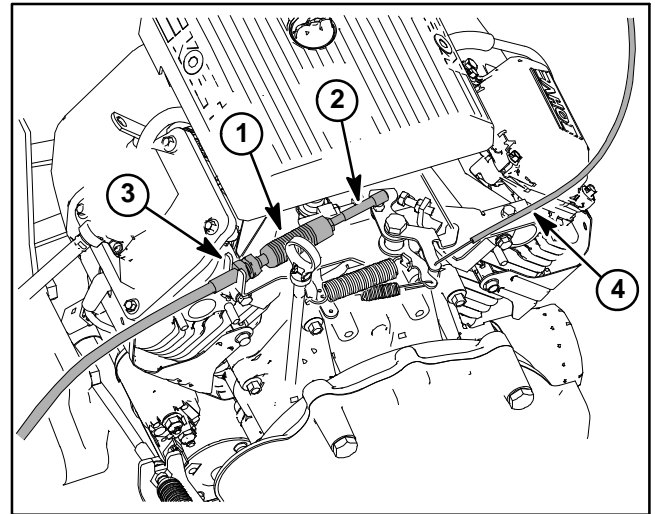

Figure 12
5. Remove accelerator cable from engine (Fig. 12).
6. Remove choke cable clamp and choke cable from the engine speed control bracket (Fig. 12).
10. Install choke cable to engine (Figs. 12). Check choke cable adjustment (see Adjust Choke Cable in this chapter).
11. Reconnect accelerator cable to engine (Figs. 12).